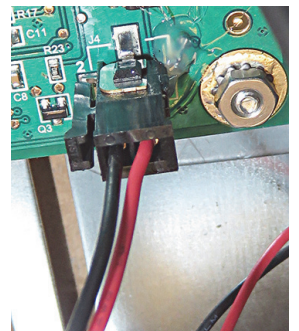

Figure 33
38. Plug the speaker into the 2-pin connector on the board (see Figure 33).